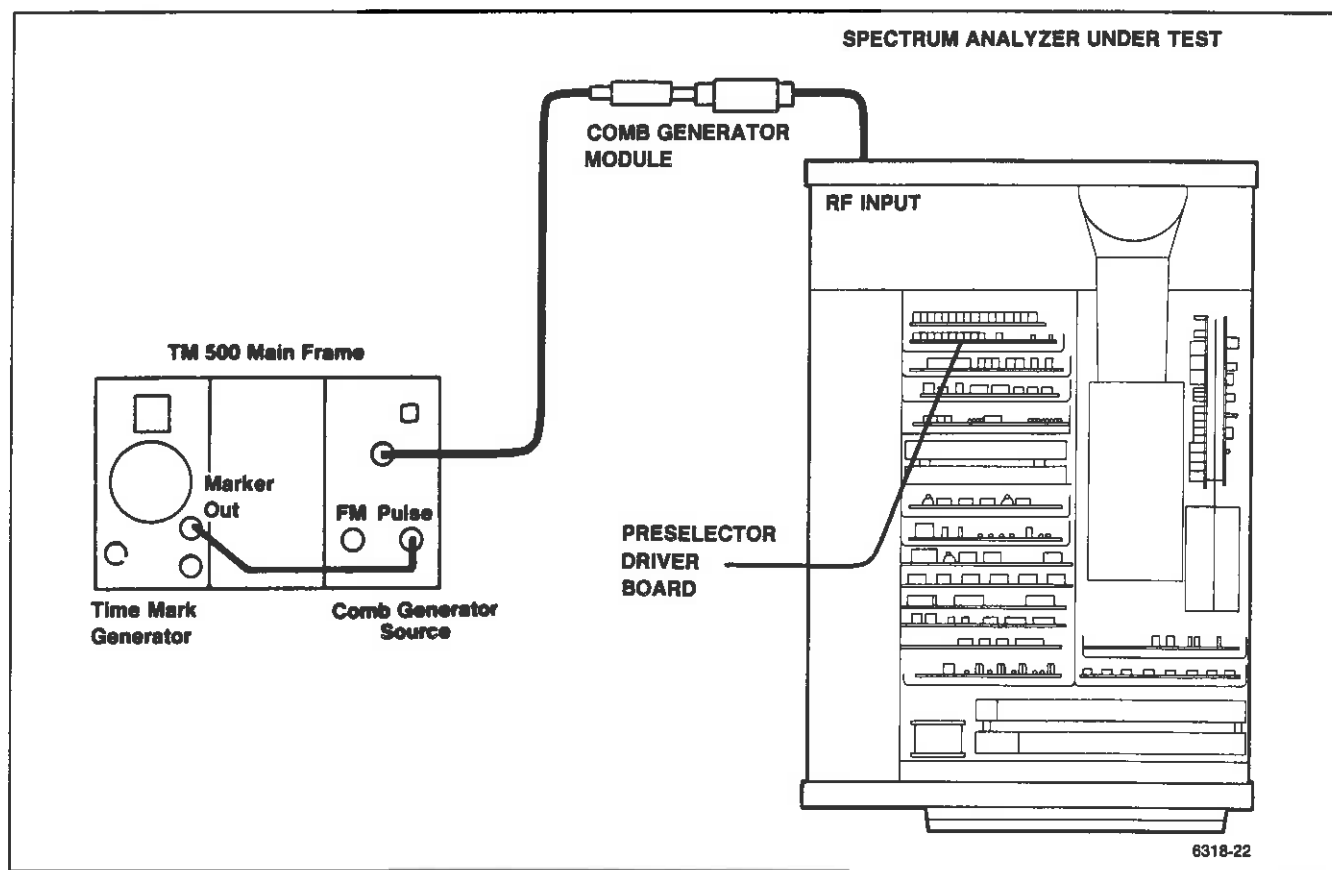

Figure 5-21. Preselector Driver adjustment setup.
- a. Connect the test equipment as shown in Figure 5-21.